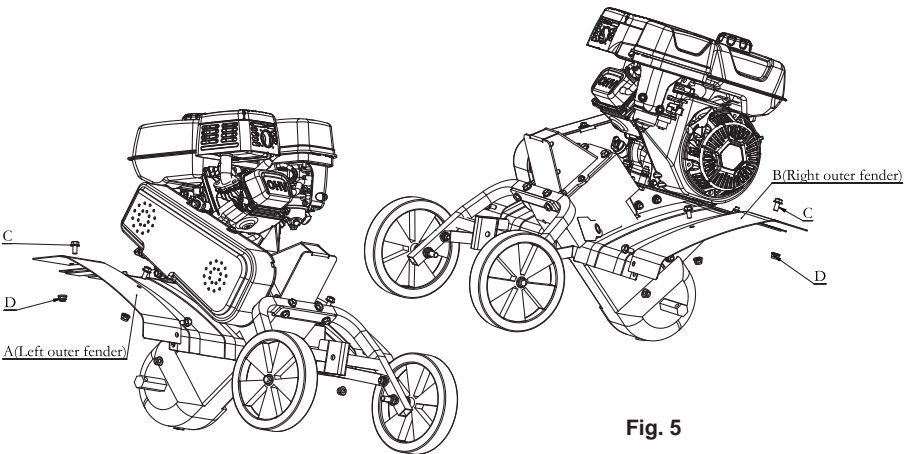

Fig. 5
Step 5 Assembly of the left/right outer fender (See Figure 5)
a. Assemble left outer fender to the left fender. The outer fender is underneath. Secure with 3 M8x16 bolts (C) and 3 M8 nuts (D).